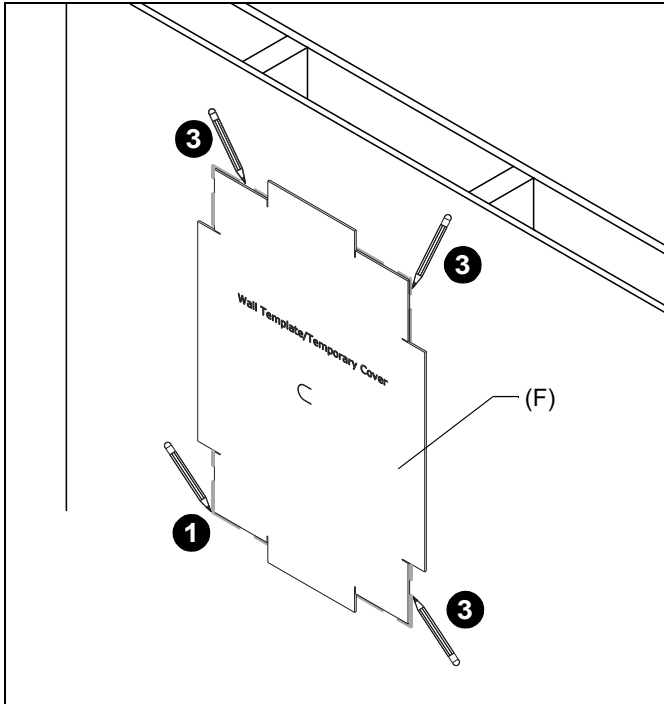

Figure 4
1. Using a level, draw a horizontal line at the lower edge of the install site. (See Figure 4)
3. Using the line drawn in Step 1 as lower edge and placing between studs, use the enclosed template (F) to draw lines around corners of template, and connect lines on bottom, top and sides. (See Figure 4)